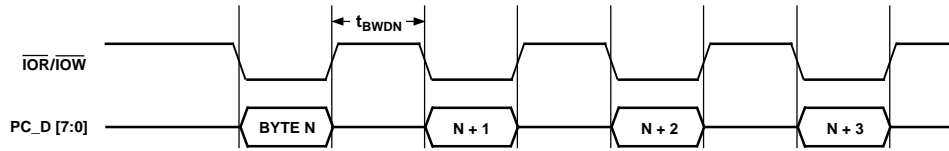

Figure 15. Codec Transfers
After setting format bits, sample data into the AD1821 must be ordered according to Figure 15, Table VI.
- CFMT [1:0]** (RW) Capture Format. Use these bits to select the format for capture data according to the following Table VI and Figure 15.